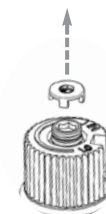

Fig. 1
- 14) Remove the black protection cap by hand from the hi-low knob (Fig. 1).